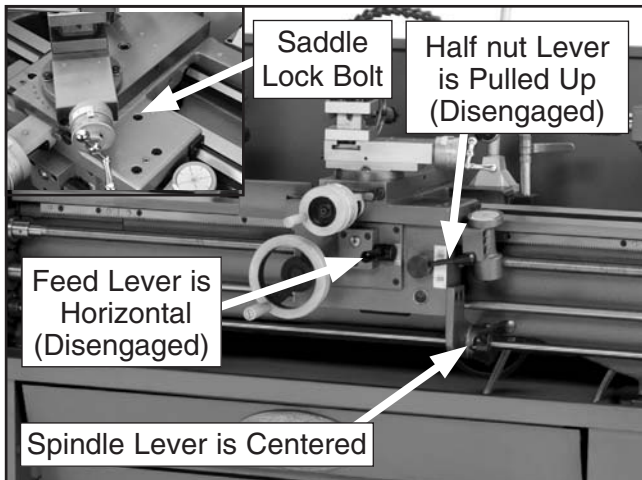

Figure 12. Apron controls.
5. Disengage the half nut lever and the feed lever (**Figure 12**), and make sure the saddle lock bolt is loosened (do not loosen the saddle lock bolt too much—see **Page 51**).
9. Push the POWER START button, then move the spindle lever (**Figure 12**) down to start the spindle.